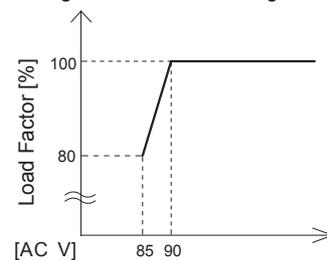

Fig.3.2 Derating curve depending on input voltage
■ Input voltage derating curve is shown in Fig.3.2.